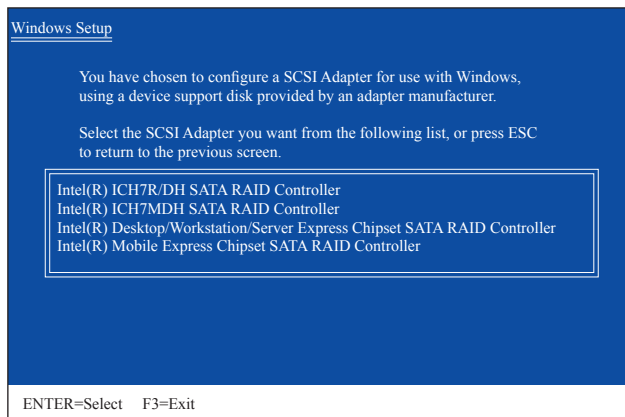

Figure 3
Insert the floppy disk containing the SATA RAID/AHCI driver and press <Enter>. Then a controller menu similar to that in Figure 3 will appear. Select **Intel(R) Desktop/Workstation/Server Express Chipset SATA RAID Controller** and press <Enter>. For AHCI mode, use the up arrow key on the keyboard to scroll to the **Intel(R) ICH10R SATA AHCI Controller** item and press <Enter>.